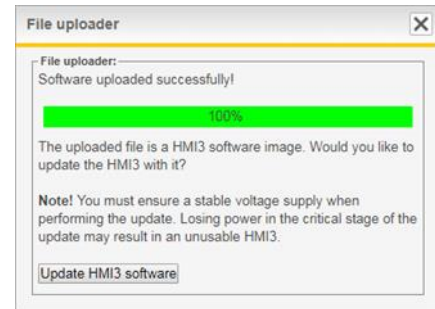

Figure 37: Confirm HMI3 software update
1. If a HMI3 software image was uploaded, you will be presented with the screen in Figure 37. **Ensure stable voltage supply** and click *Update HMI3 software* to begin the flash update procedure.